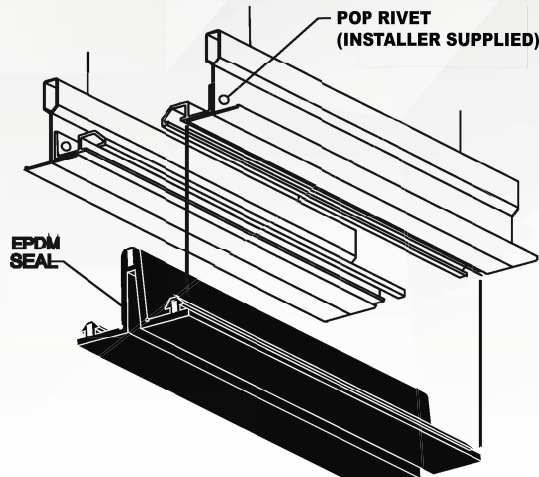

FIGURE 3
- Secure the frames to the tees with pop rivets (installer supplied) approximately 50 cm. on center starting 15 cm. from each end (see Figure 3). For ceiling to wall system, secure the frames with pop rivets/ hardware (installer supplied). Press the EPDM seal into the recessed slots of the frames until the seal is flush with the bottoms of the frames.